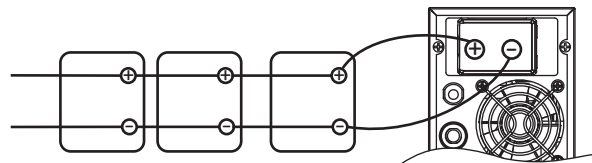

Fig. 4
3)Multiple batteries in parallel connection(Refer to Fig. 4): Each battery's voltage must be equal to the Nominal DC Voltage of the unit.